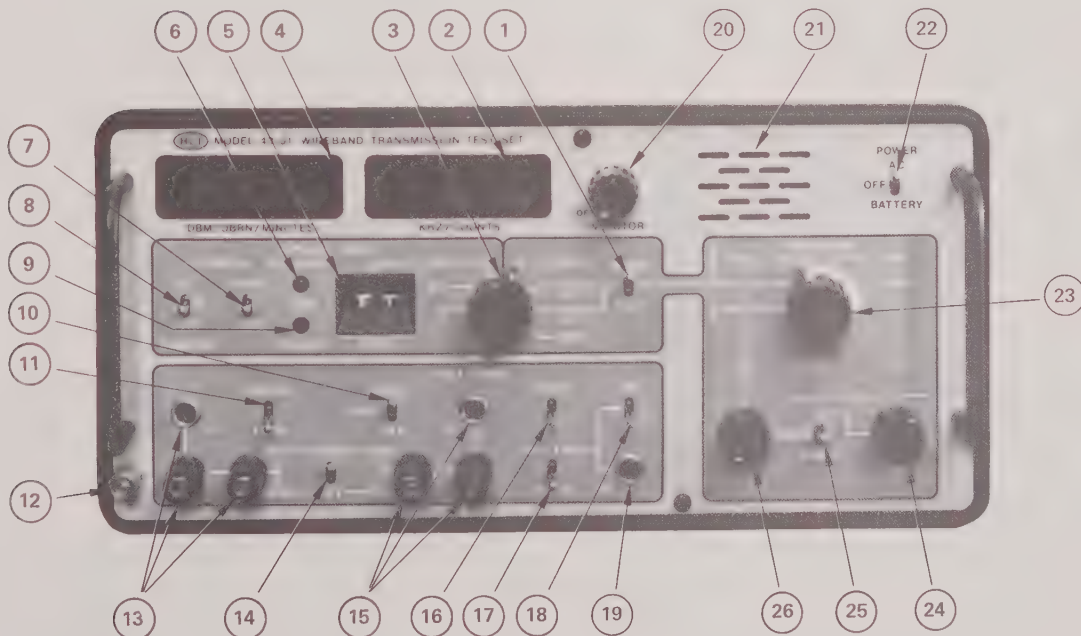

Figure 4. Controls, Jacks and Displays
3.01 This section contains the description of all toggle switches, knobs, jacks, displays and the speaker on the Model 43-01. Refer to Figure 4 for the location of all items discussed.